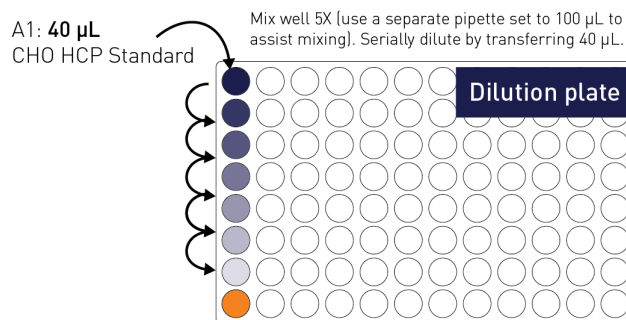

Figure 2 Serially dilute the CHO HCP standard from SD1 to SD7 (tubes) or A1 to G1 (shown in plate format)
5. Repeat the procedure in step 4 to transfer the remaining dilutions (see the following table, column 3, and Figure 2 on page 11).